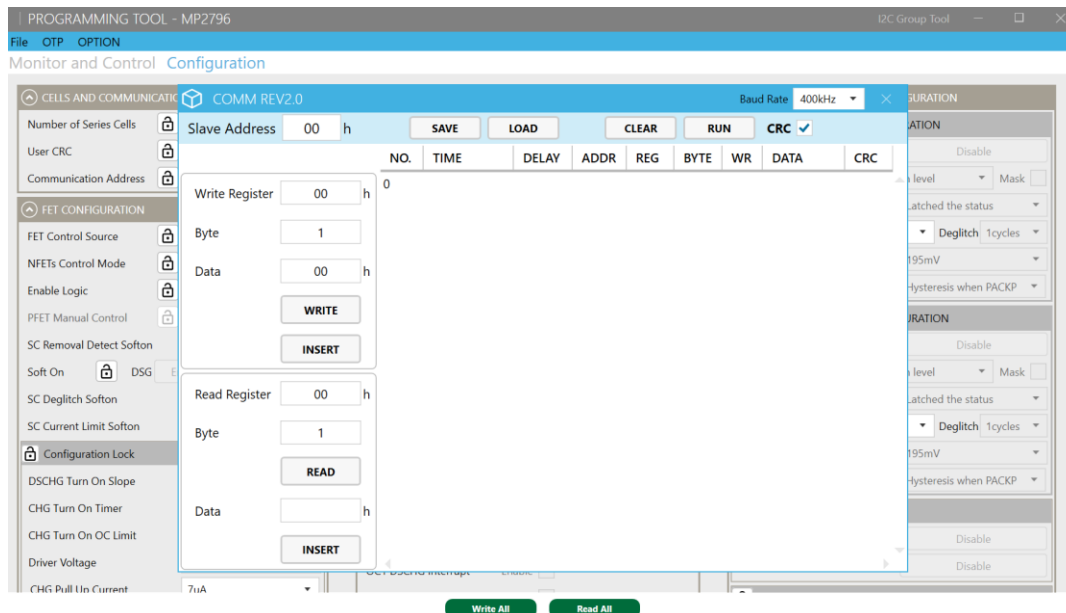

Figure 17: Group Tool to Configure a Single Register
5. Click “I2C Group Tool” (for the -0000 configuration code) or “SPI Group Tool” (for the -0002 configuration tool) at the top right of the GUI window to configure a single register in the “COMM REV2.0” window that pops up (See Figure 17).